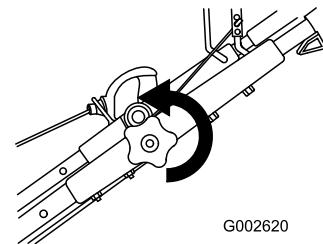

Figure 18
1. Loosen the upper handle knob (Figure 18).